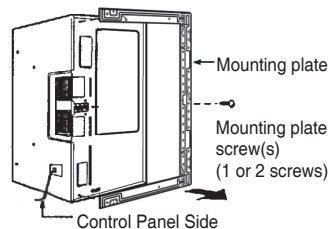

Figure 12
1. Remove mounting plate screw(s) (1 or 2 screws) from the mounting plate as shown and discard. See Figure 12.